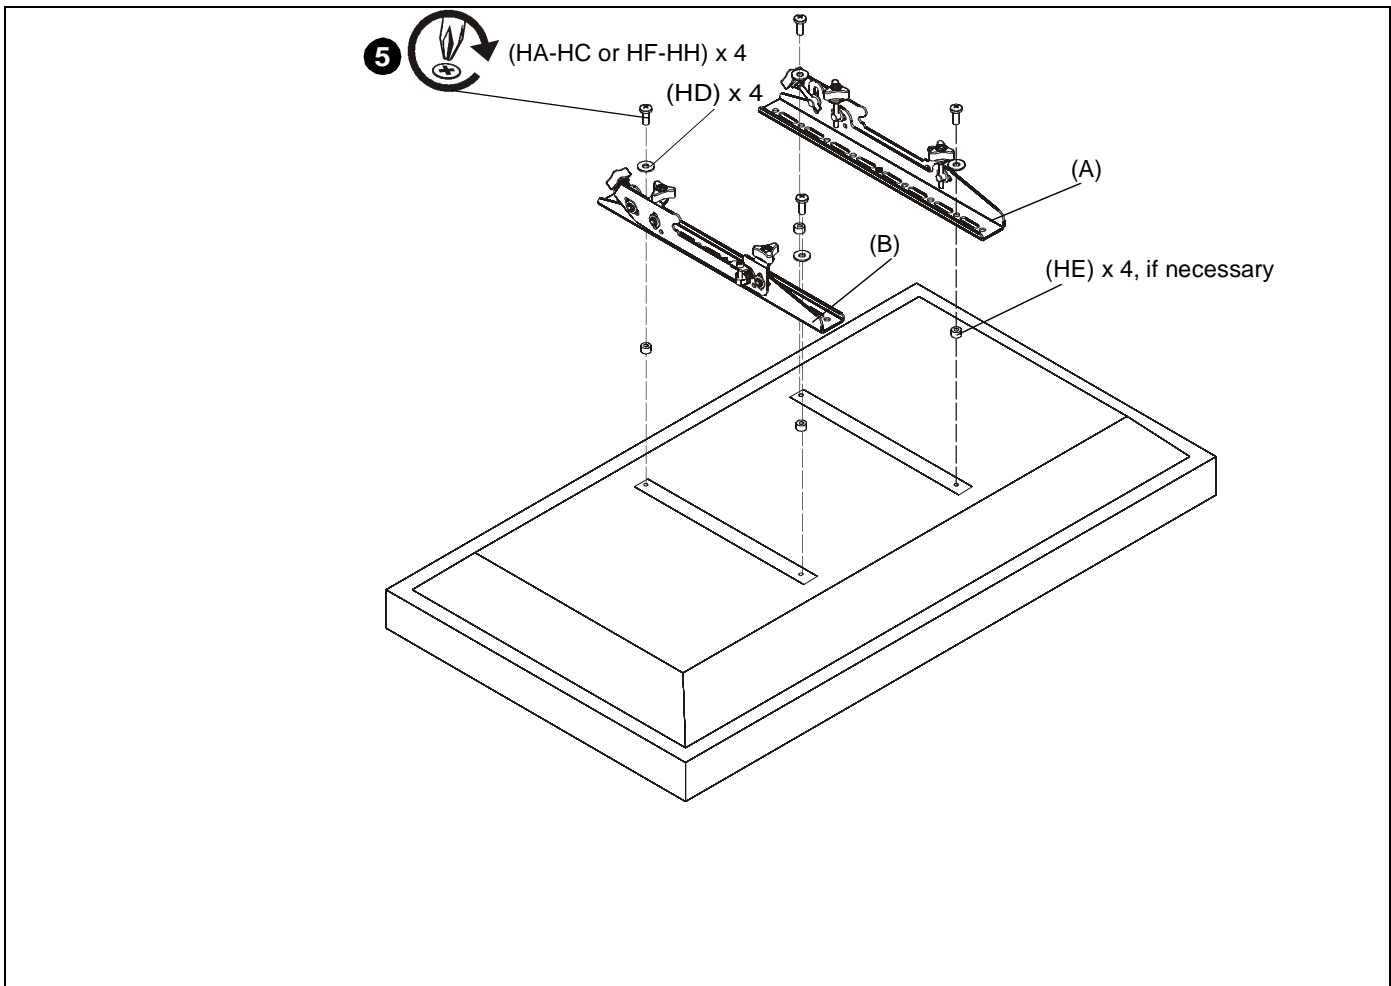

Figure 7
2. Select screw *diameter* by examining hardware (HA-HC and HF-HH) (6mm or 8mm) and comparing with mounting holes on display. (See Figure 7)
- If mounting holes are recessed, or if protrusions prevent brackets (A and B) from laying flat, then spacers (HE) must be used.
4. Select screw *length*: (See Figure 7)
- Using your hand, insert **SHORTEST** length screw of selected diameter (HA or HF) through 1/4" washer (HD), bracket (A or B), selected spacer (HE, if required), into display mounting hole. Do NOT thread screw into hole at this time.
5. Use selected screws (HA-HC or HF-HH), washers (HD) and spacers (HE), if necessary, to connect interface brackets (A and B) to back of display. Make sure diamond on interface brackets is even with center of display. (See Figure 7)